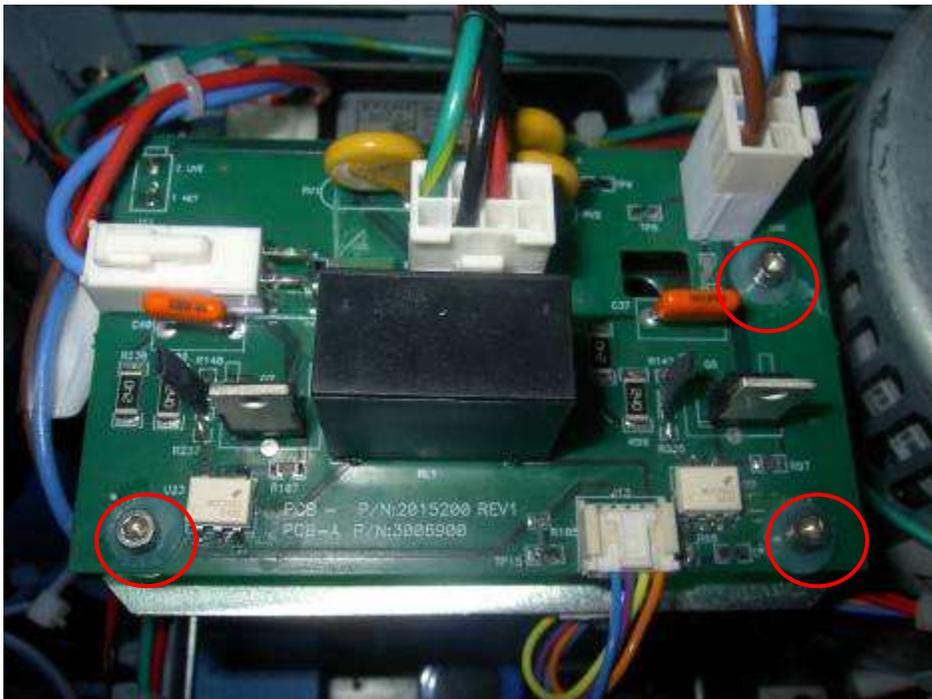

Figure 128
5. Unscrew the allen screws securing the Splitter to the chassis (Figure 128).